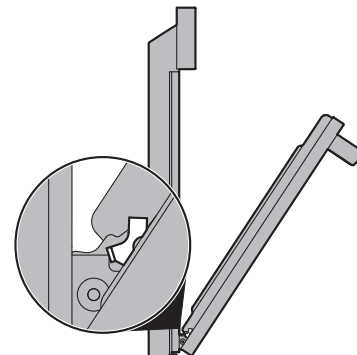

Figure 14: Removal position
3. Grasp the door by the sides, and close the door until the door frame makes contact with the unlocked hinges (Figure 14).
2. Hold the oven door at the same angle as the removal position (Figure 14) Carefully insert the hinge levers into the oven frame until you feel the hinge levers are seated into the hinge notches. The hinge arms must be fully seated into the hinge notches before the oven door can be fully opened..